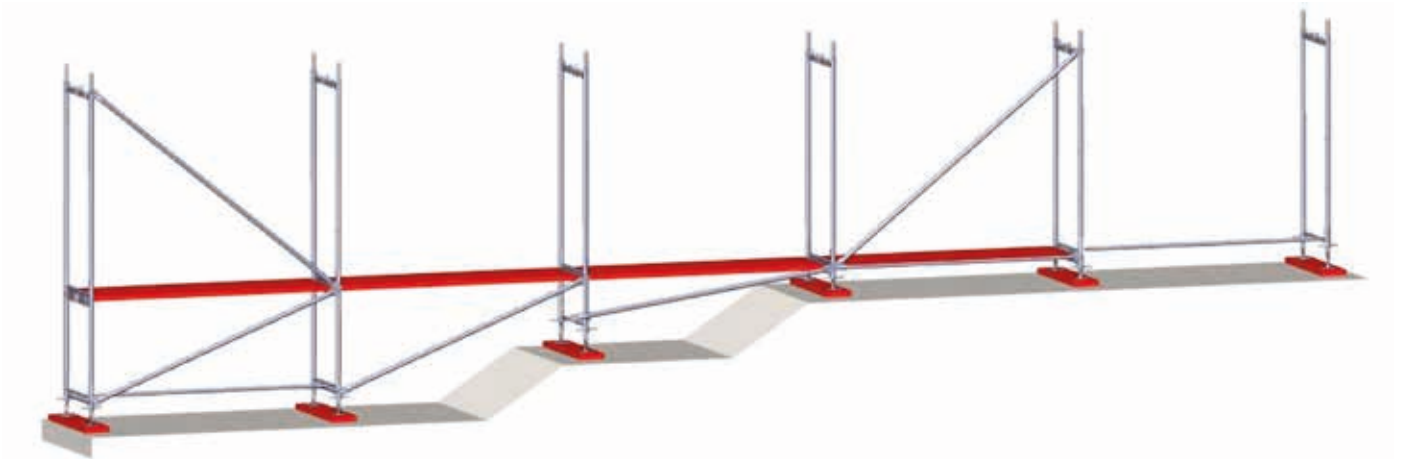

Fig. 3. Compensation of unevenness of the substrate with levelling frames.
- When setting the scaffolding on a sloping ground, screw jacks of different lengths are used: 0.4 m, 0.6 m, 0.8 m. However, if the compensation of the height by unscrewing the nuts of the scaffolding is not sufficient, levelling frames must be used. Remember to brace the levelling frames from the bottom of the frame (at the screw jack) to the brace pin; this can be done using system bracings or swivel pipe fittings (Fig. 3)